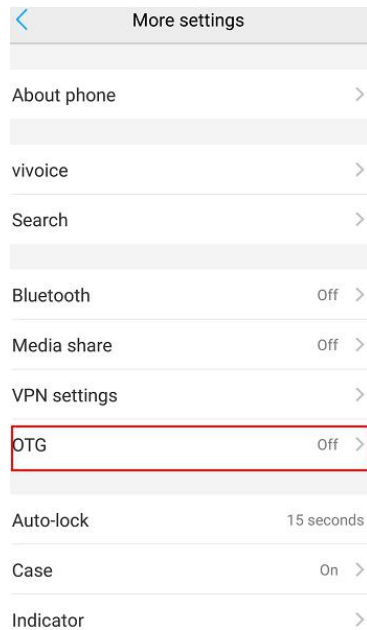

Figure 4-2-1
1) Open the OTG function from cellphone SETTINGS---SYSTEM---OTG (the default is Off thus it should be opened every time), see figure 4-2-1.